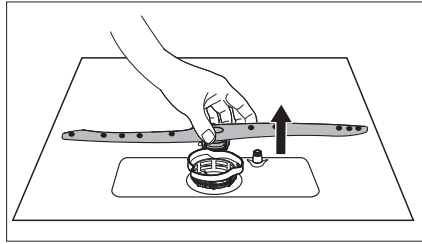

Fig. 22
- ▶ Remove the spray arm (1) inside the appliance to clean it. To do this, lift it slightly and remove it (see **Fig. 22**).